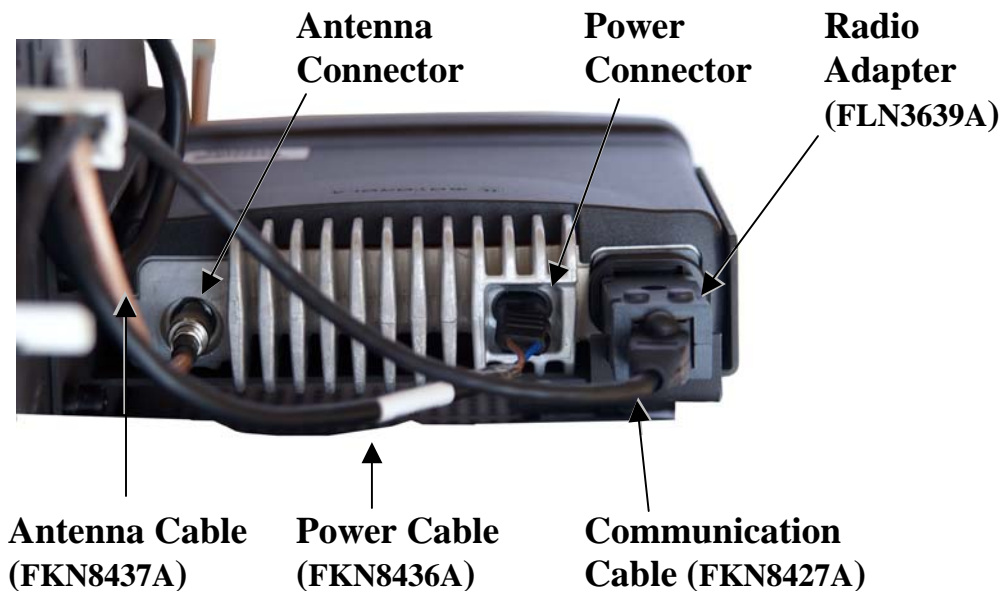
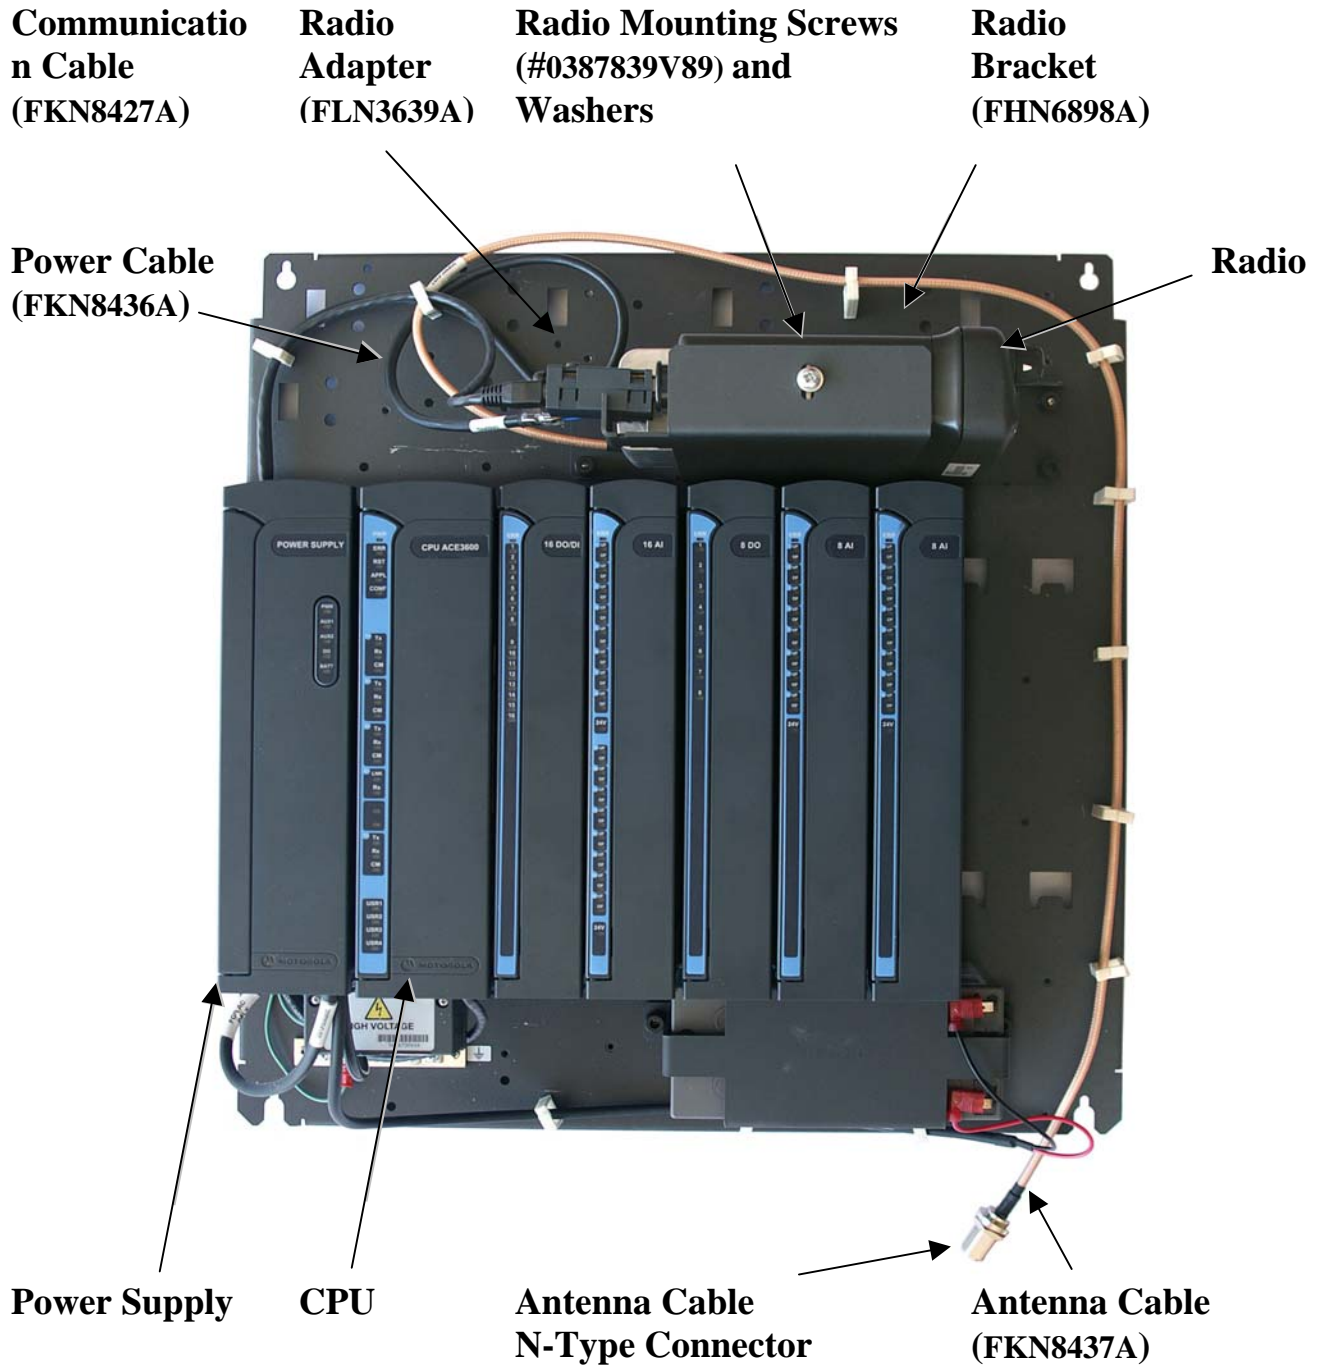

Figure 13-13 CDM750 Antenna, Power and Communication Cable Connections
Figure 13-15 CDM750 Radio Installed on ACE3600 Chassis
2. Connect the radio adapter (FLN3639A) 16-pin connector to the radio Accessory connector (See Figure 13-13.)
4. Connect the antenna cable (FKN8437A) to the Antenna connector on the radio and to the opening on the bottom of the ACE3600 RTU housing, using the four supplied screws. See Figure 13-13 and Figure 13-15.)
6. Attach the complex (radio + bracket) using the four supplied screws to the ACE3600 chassis. See Figure 13-15 below.